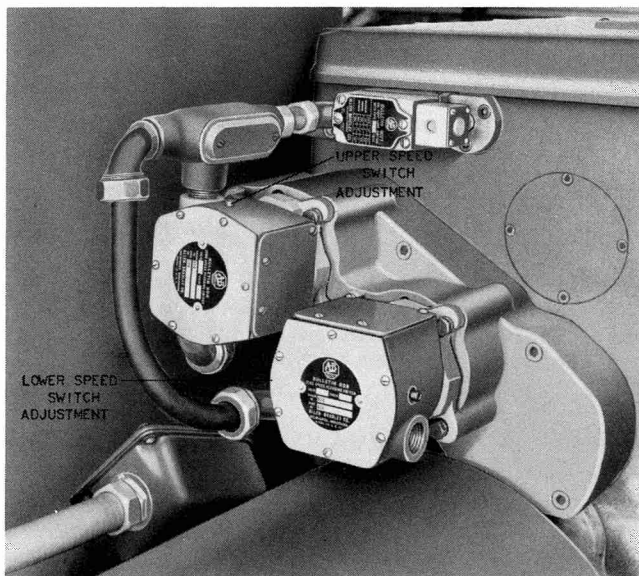

FIG. 6
3. The speed of the gear shafts at the shifting point is determined by two speed switches. (Figure 6) The lower speed switch is for the lower eight speeds, and the upper speed switch is for the higher eight speeds. Each speed switch has an adjusting screw to regulate the speed of the gear shafts at the instant of shifting. On the lower speed switch the adjusting screw is on the left. On the upper speed switch the adjusting screw is on the top. Turning the screws clockwise will increase the gear shaft speeds at the shifting point. These speed switches were preset at the factory and should not require adjustment.